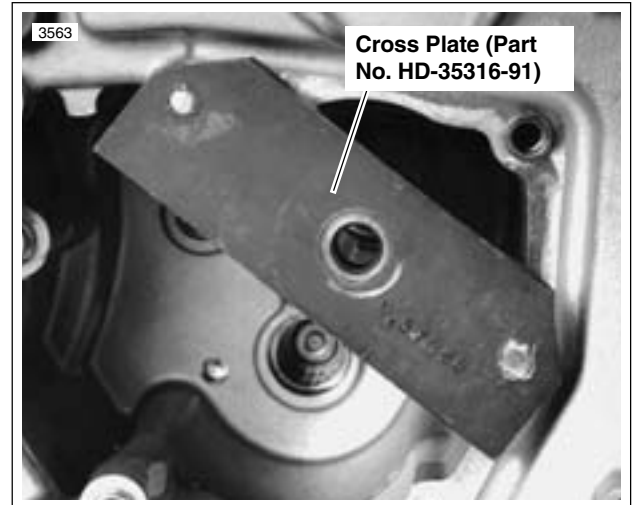

Figure 6-48. Support Bracket Mounting
3. See Figure 6-48. Use MAIN DRIVE GEAR REMOVER AND INSTALLER (Part No. HD-35316-A) with CROSS PLATE (Part No. HD-35316-91). Take support bracket and insert pins, at one side, into holes which are now exposed under access cover.